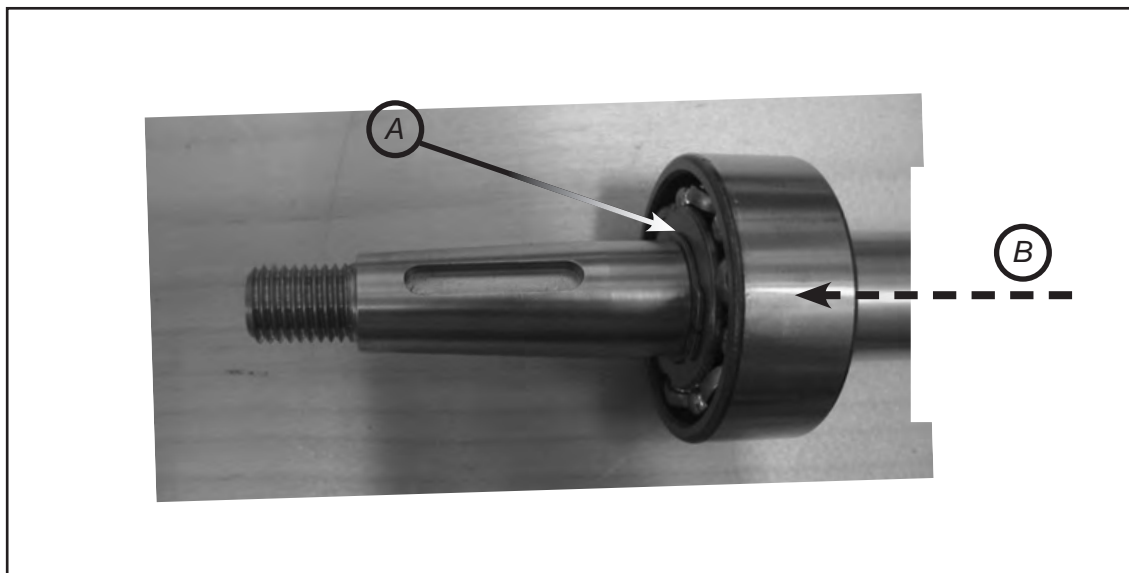

Figure 2.1.1.2-5
To remove the bearing, remove the safety ring and push the bearing to the direction of the safety ring groove (B). See figure 2.1.1.2-5.